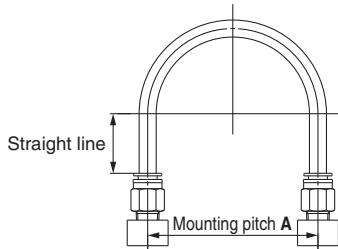

Figure 1 Recommended piping
- When connecting piping to the One-touch fitting, use pipe length with sufficient margin, in accordance with the piping conditions shown in Figure 1.